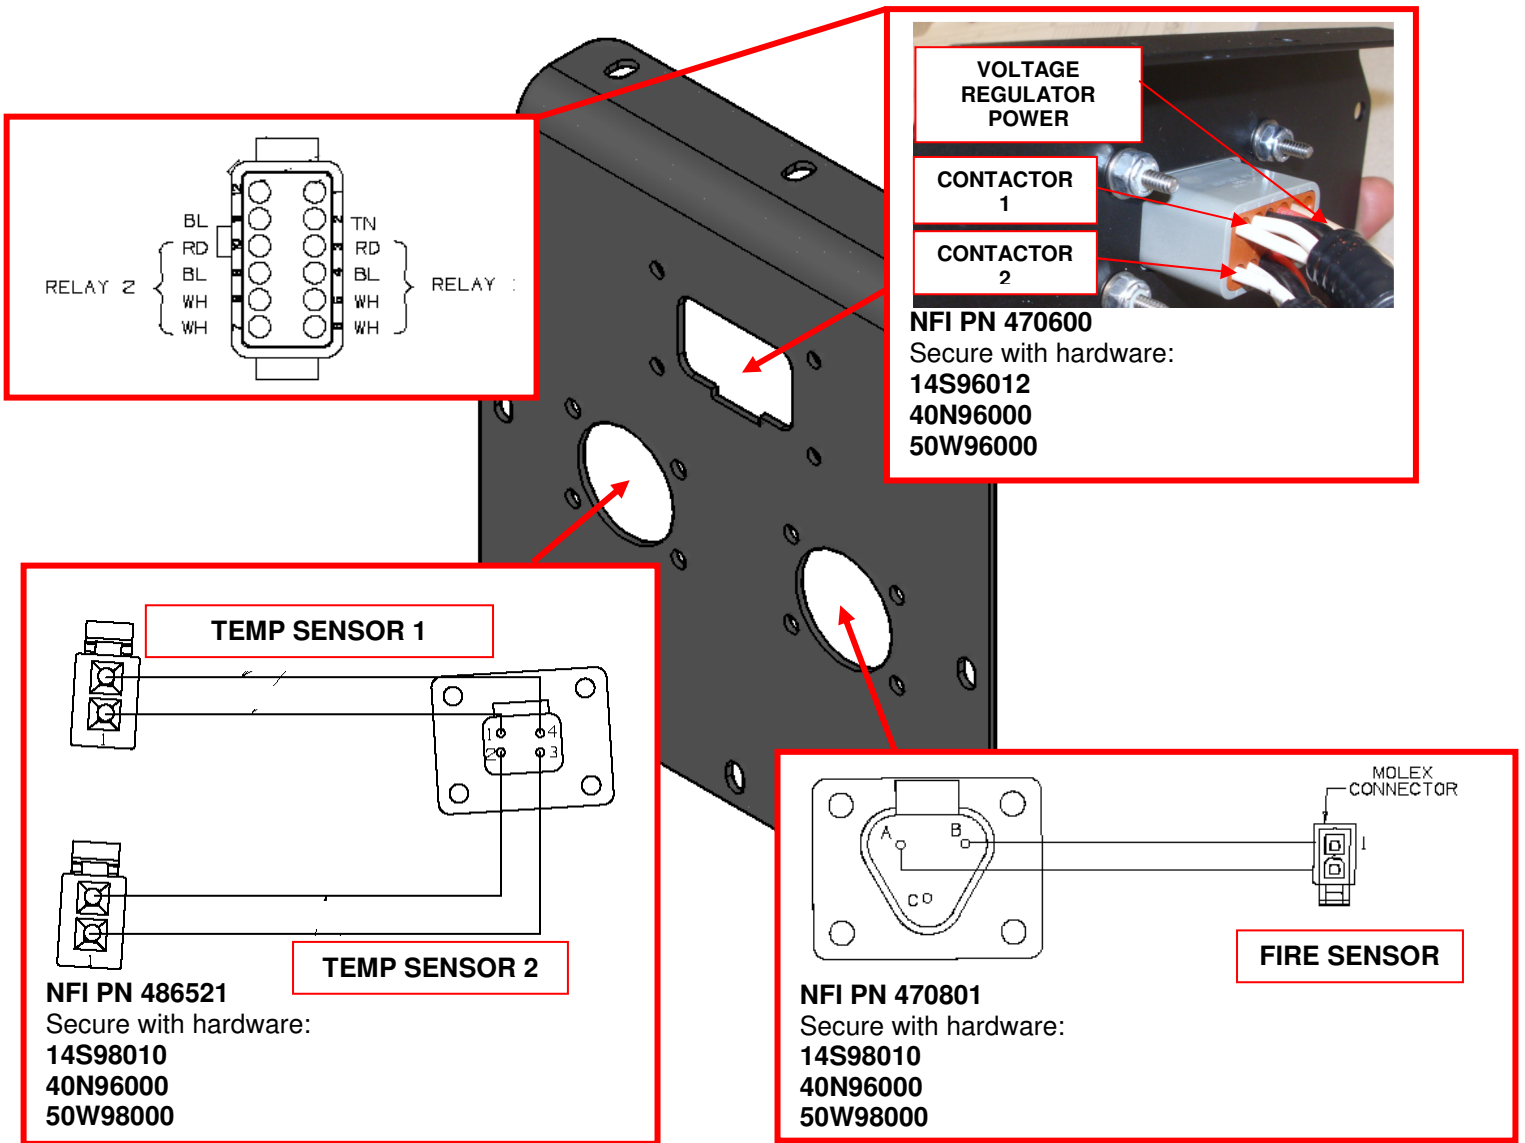

Fig 18 – Door Assembly
- k. Assemble door (NFI PN 468996) with harnesses **NFI PN 486521** and **NFI PN 470801** using hardware **NFI PN's 14S98010, 40N96000, and 50W98000** to secure. Install harness **NFI PN 470600** with hardware **NFI PN's 14S96012, 40N96000, and 50W96000**. See Fig 18.